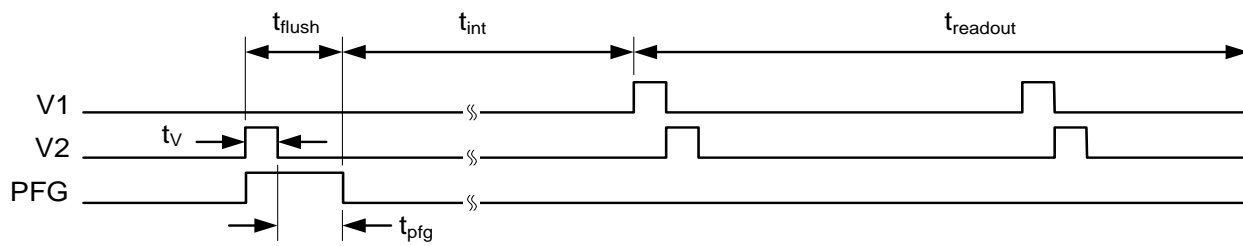

Figure 18: Pulse Flush Gate Timing
The FDG clock only resets pixels that happen to be in the FDG row. Charge transfer out of the pixel is fully completed only after V2 has been clocked low plus the characteristic time period (t_{fdg}). The position of the FDG row is illustrated in Figures 18 – 20, including the timing required for a simple 1 line dump operation. Pixels colored in yellow represent dumped pixels.
3.0	Page 23: PFG Holdtime decreased from 5ms to 180 μ s. Page 30: Updated Figure 18 for PFG timing change.